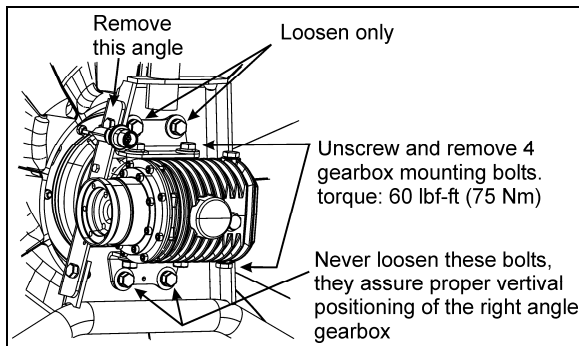

FIGURE 28: RIGHT ANGLE GEARBOX MOUNTING 05126
5. Dismount the angle (see fig. 28).